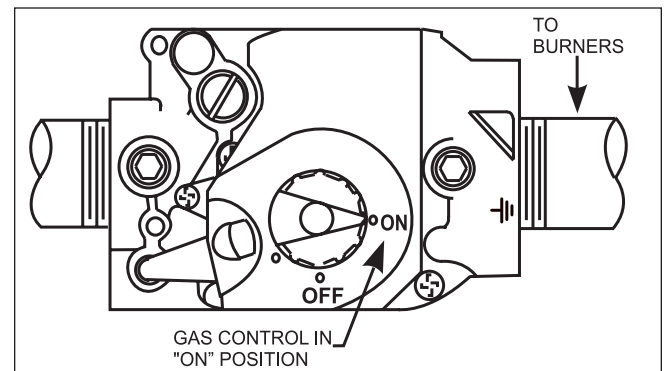

Figure 20. Gas Valve
4. Turn the gas valve control knob counterclockwise to ON. See Figure 20.